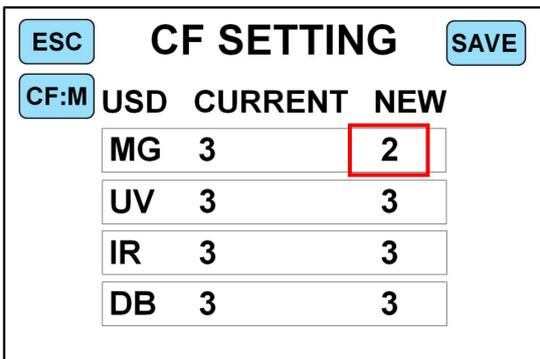
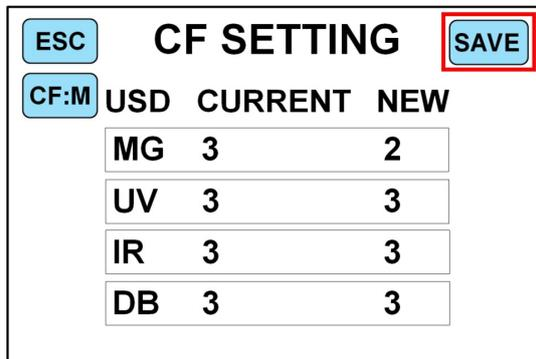

Figure 42
Figure 43
c) After selecting “**Level 2**”, the NEW row value corresponding to MG on the display interface will become 2, as shown in Figure 42 below. Please click the “**SAVE**” key in the upper right corner to save the value, as shown in Figure 43.